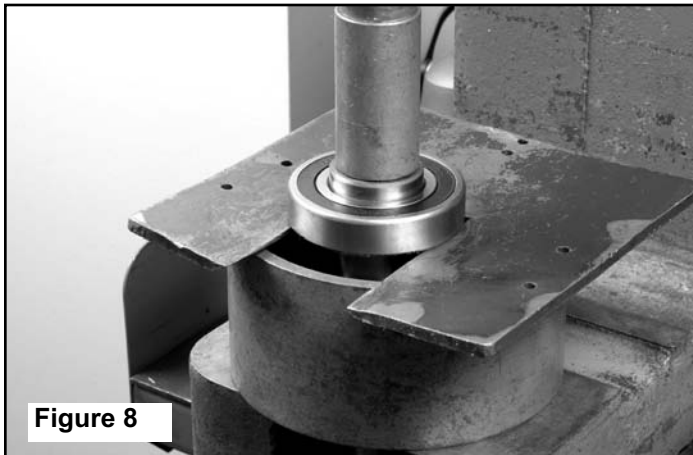

Figure 8
4. Support the bearings only in a press to remove from the shaft. Use a snap ring pliers to remove retaining rings, if necessary (See Figure 8).